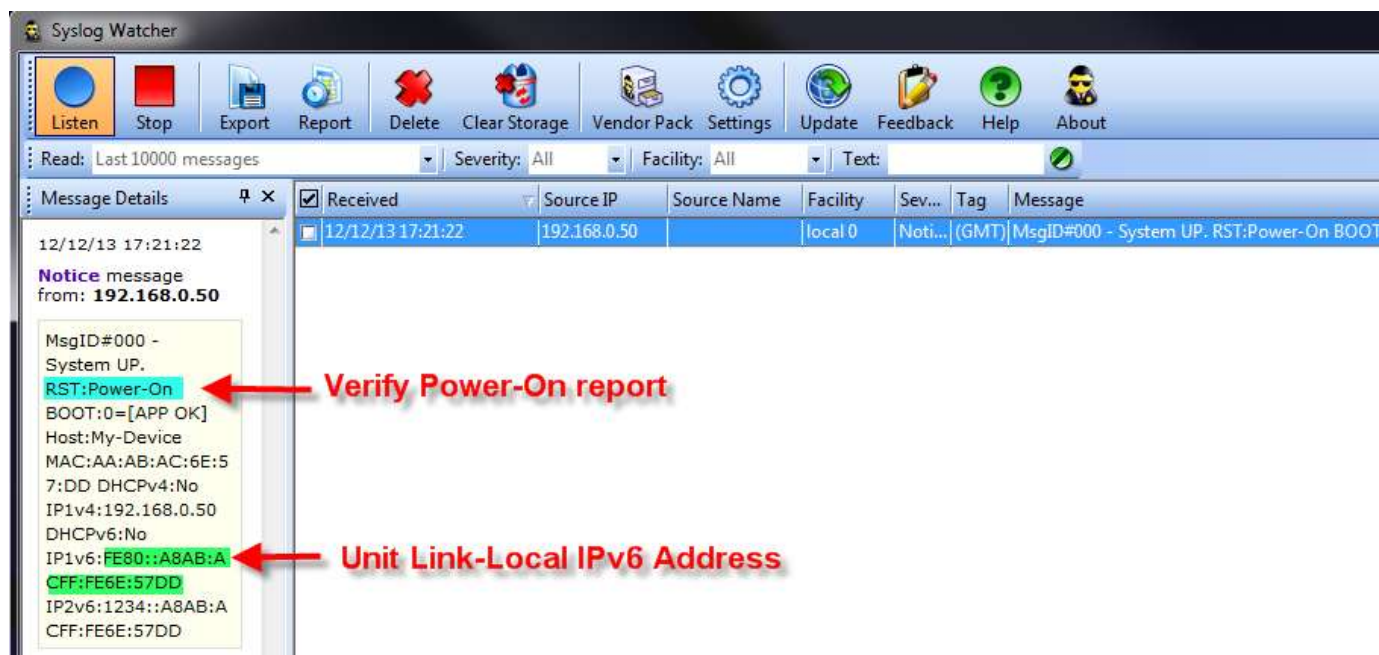

Figure 9-1: Find Unit IPv6 Link-Local address from Power-Up SysLog Report
3. Turn the unit off, wait 10 seconds, and turn it back on. A SysLog message similar to the one in Figure 9-1: Find Unit IPv6 Link-Local address from Power-Up SysLog Report below should appear after 15 seconds or so. Please identify unit IPv6 address (IPv6 Link-Local address always starts with FE80).